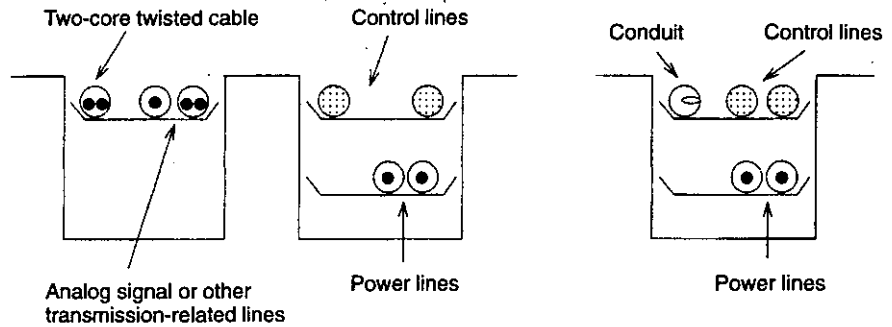

Figure 8.1 Off-panel Wiring for 2-core Twisted Cable
- 4) Off-panel wiring for the 2-core twisted cable is summarized in *Figure 8.1*.